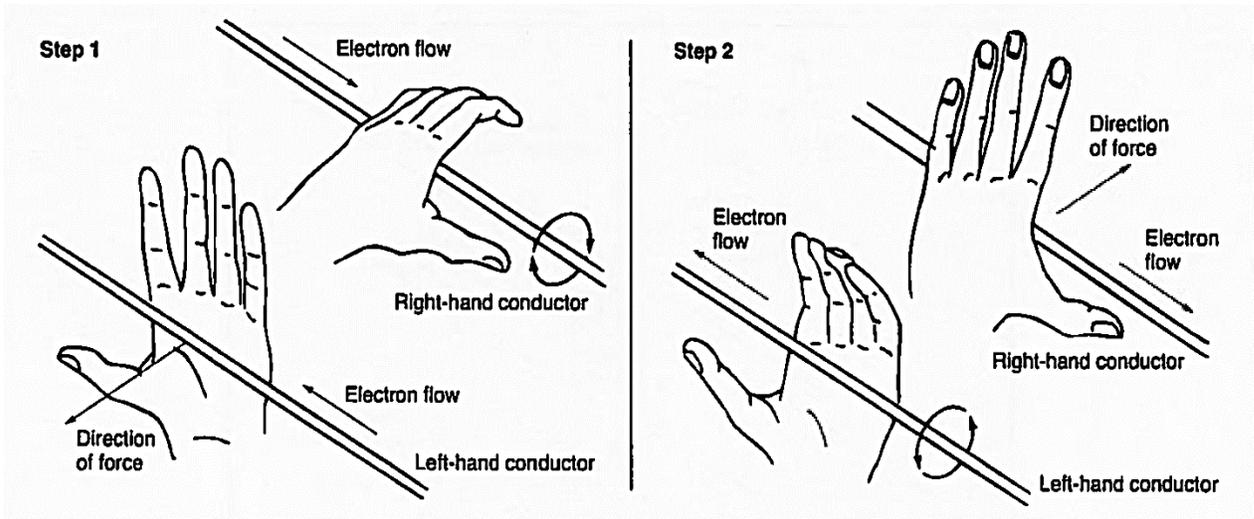

Figure 4.10: Forces on Parallel Conductors Carrying Alternating Current
4-46 An example of how to apply both these rules is shown in Figure 4.10. This example shows the two conductors carrying alternating current to a motor. The conductors are not attached to each other, so they are free to move. How will the current in these conductors move them, if at all?
Step 1: In one step, you analyze the force exerted on the electrons moving through the *left-hand* conductor. This force is exerted by the magnetic field produced by the *right-hand* conductor. Figure 4.10 shows this step.
You start by using one left-hand rule to find the direction of the magnetic field around the right-hand conductor. In Figure 4.10, this field is shown by the circles around the conductor. The direction of the magnetic field is upward through the left-hand conductor.
Using the first left-hand rule, you can see that the direction of the magnetic field is upward where the right-hand conductor passes through it. Figure 4.10 shows this step.